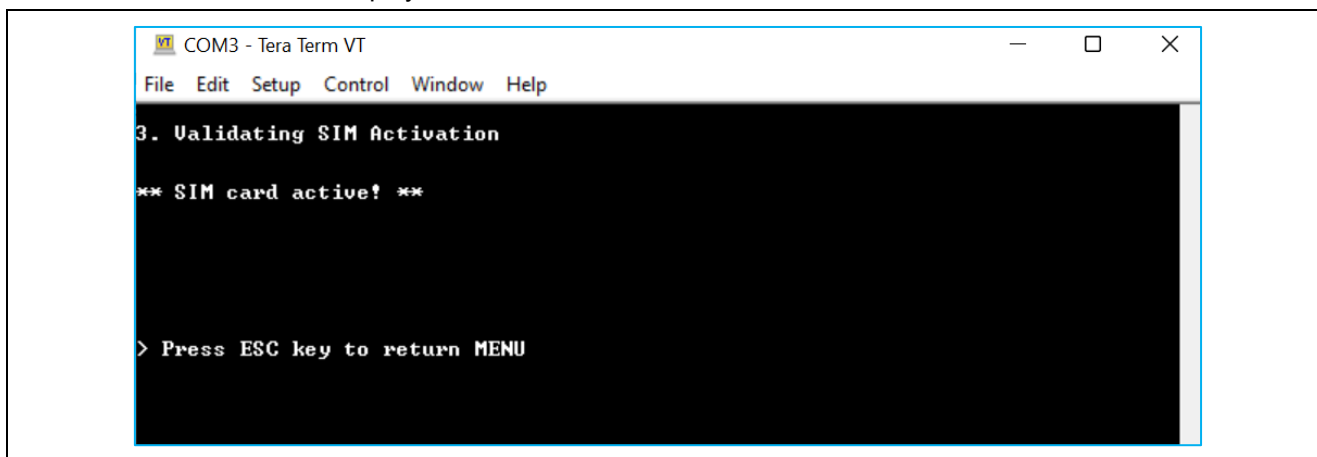

Figure 11. Validating SIM Activation
11. Finish the device registration. The **RSK-RX65N-2MB** board and SIM card should be activated on the Launchpad platform and can be validated on the Tera Term terminal as shown in Figure 11.